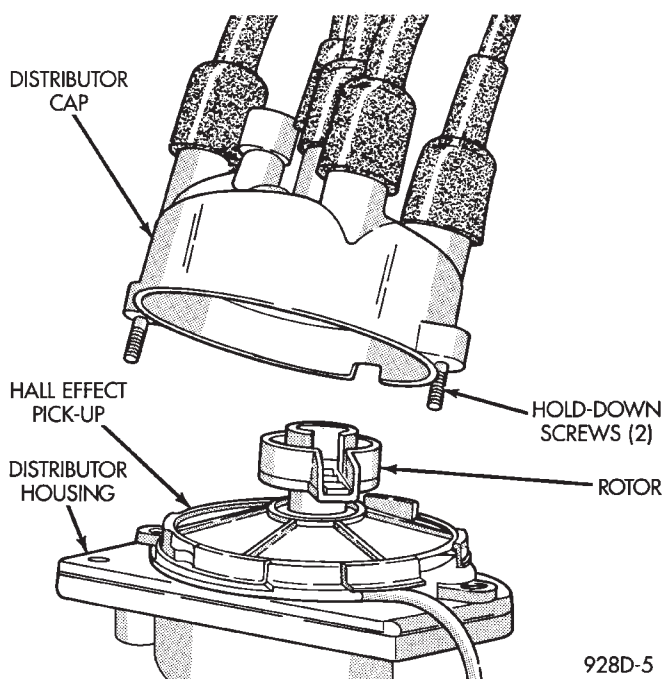

Fig. 17 Distributor Cap—2.5L Engine
- (5) Lift cap off of distributor (Fig. 17).
- (6) Rotate engine crankshaft until the distributor rotor is pointing toward the cylinder block. Use this as reference when reinstalling distributor.
- (7) Remove distributor hold-down screw.
- (8) Carefully lift the distributor from the engine.